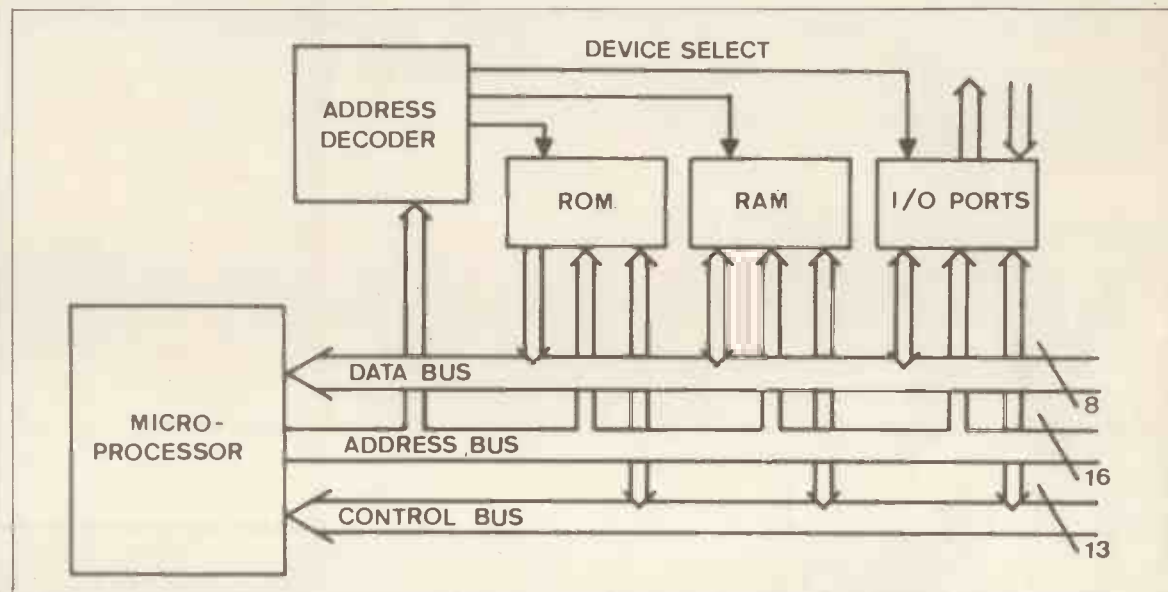

Figure 2. A Microprocessor Bus Structure.
To simplify matters therefore, a bus structure is adopted, as shown in Figure 2. The data bus is bidirectional (i.e. data may travel to or from the processor). Notice the notation used to denote the width of the bus. Similar bus structures are adopted for addresses and control signals. Whilst any number of devices may read the data bus simultaneously, it is essential that only one device tries to place data on the bus at one time. If two devices try to pull a bus line in opposite directions, at best the result will be indeterminate; at worst the devices will be damaged. The data outputs must therefore be capable of being electrically disconnected from the bus. Such outputs are generally known as 'tri-state' as they may be in one of three states — high (1), low (0) or disconnected (off).